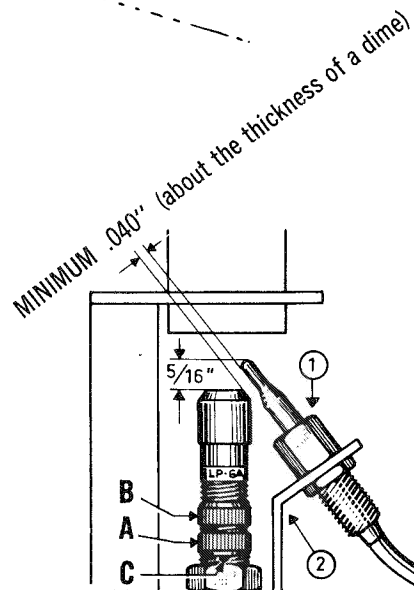

FIGURE 8-B
- a. The thermocouple tip may not be in the flame. The thermocouple should be at an approximately 45° angle to the burner located per figure 8-B.